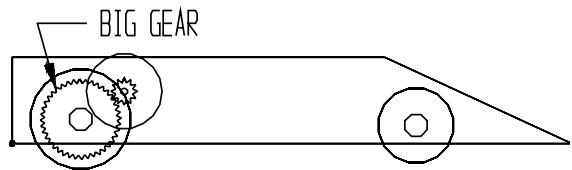

FIG. 20
Step 8. Click on the big gear, **Fig. 20**.